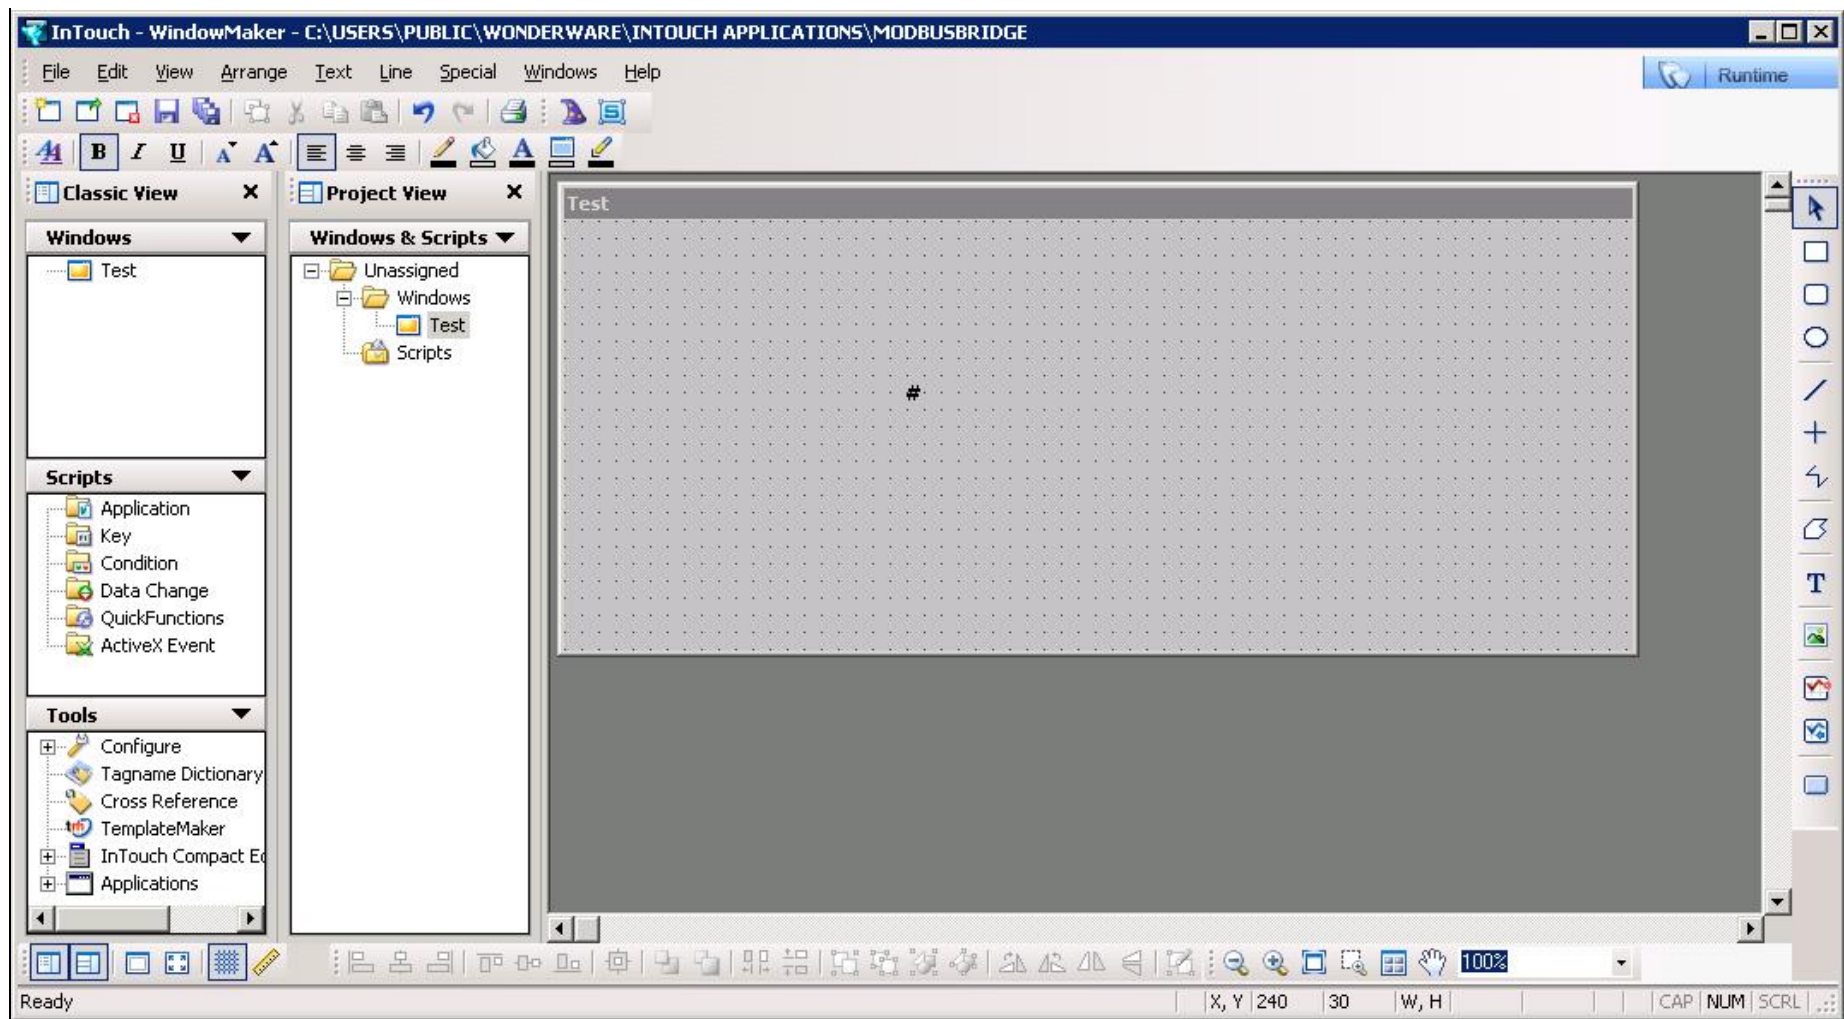

FIGURE 8: INTOUCH WINDOW
13. Place the **Text** object on the new window then type a **#**. The screen should look similar to Figure 8 (below):